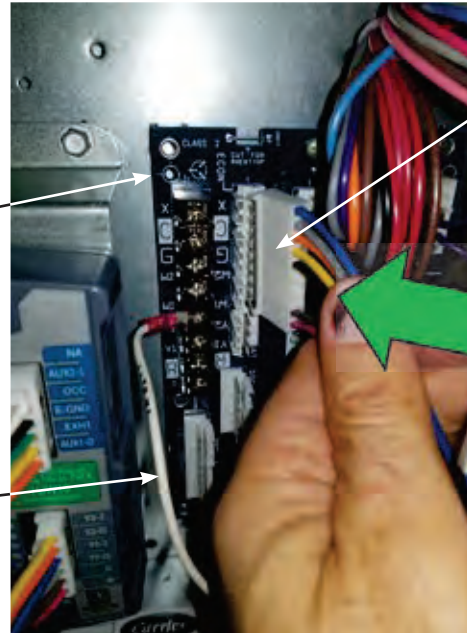

Figure 18 – Connect 10-Pin Jade Plug to Central Terminal Board
1 - The controller's wiring harness is designed specifically for EcoBlue, Axiom-Fan and X-vane units with the Unit Control Board (UCB). If your unit has the older Central Terminal Board (CTB) or Centrifugal Supply Blower then you must purchase a different harness (MicroMetl P/N 9962-0407 & 9962-0407SAOAEXT, If a NV customer then purchase P/N 1002-0407) which is purchased separately. and skip to STEP 25, Figure 18.
Step 27 Connect the 10-pin female plug from the Jade controller harness to ECON on the CTB. See Figures 18 and 26.
Step 28: Connect the White wire from the Jade controller harness to the W1 terminal on the CTB. See Figures 18 and 26.